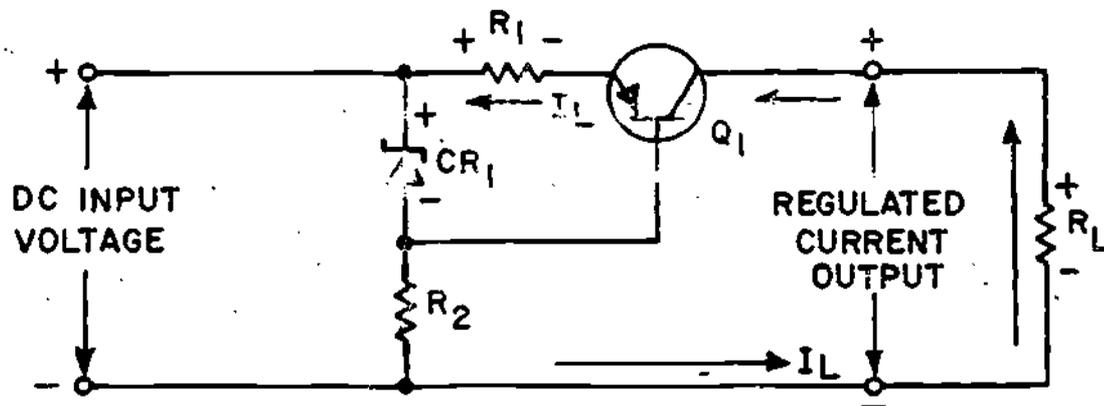

FIGURE 27
35. Since use of a variable resistor is not a practical way to control current fluctuation or variation, a transistor and Zener diode, together with necessary resistors, are used. Recall that the Zener diode provides a constant reference voltage. The schematic shown in Figure 27 is that of a current regulator circuit.
Except for the addition of R_1 , the circuit shown in Figure 27 is similar to a series voltage regulator. The resistor is connected in series with the load and senses current changes in the load.